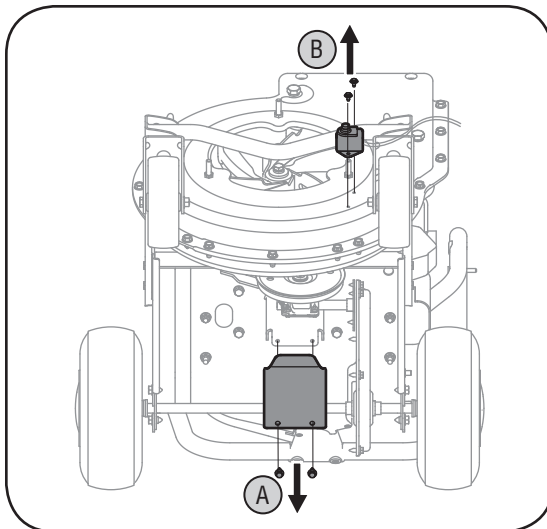

Figure 14
8. a. Remove the lower belt guard by removing the two self-tapping screws. See Figure 14.
b. Remove the safety switch from front of the outer housing by removing the two self-tapping screws. See Figure 14.